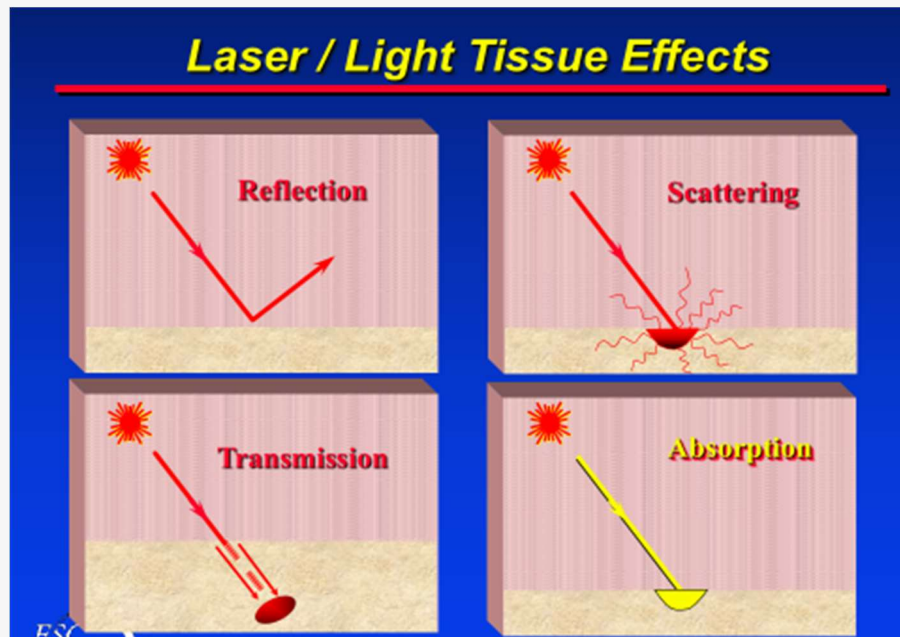

Figure 1
**Laser tissue interaction:** When you apply a laser beam on human tissue, the incident laser beam can get reflected, scattered, transmitted, and absorbed. We need the majority of laser beam to get absorbed by the target (eg. melanin) to do the desired treatment. Following figure .1 shows different laser tissue interaction.